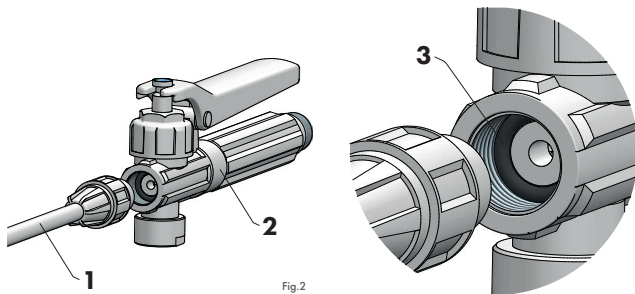

Fig.2
2. Check that the piston valve body (Fig. 2/item 2) is equipped with an O-ring (Fig. 2/item 3) and connect it with the lance (Fig. 2/item 1) by screwing in to obtain a tight connection.